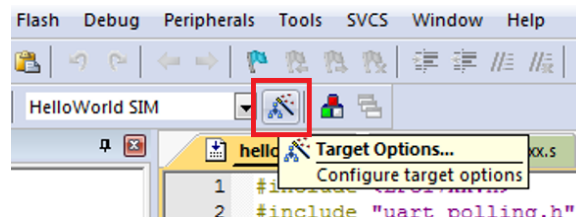

Figure 1.2: Keil IDE: Target Option Button
1. Click the Target Option button (see figure 1.2) to verify the following: